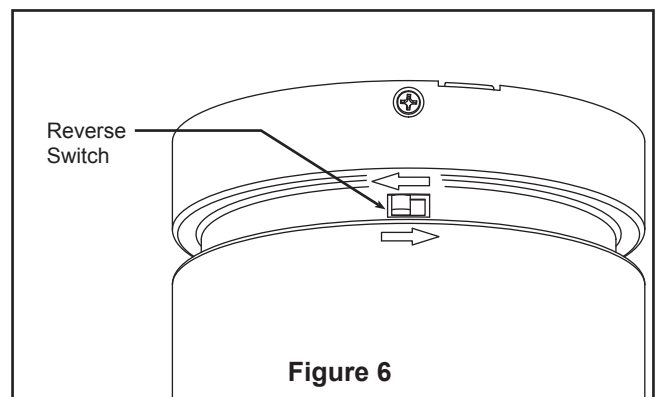

Figure 6
- 5. Hang the motor assembly from the ceiling bracket assembly using the hook on the ceiling bracket assembly and the cable loop from the motor assembly as shown. (Figure 6)
6. Connect the 2 single pin connectors from the LED assembly to the 2 single pin connectors from motor assembly. (Figure 6)
- ### 6. If airflow is desired in the opposite direction, turn the fan off and wait for the blades to stop turning. Then slide the reverse switch on top of motor assembly to the opposite position and turn fan on again. (Figure 6)